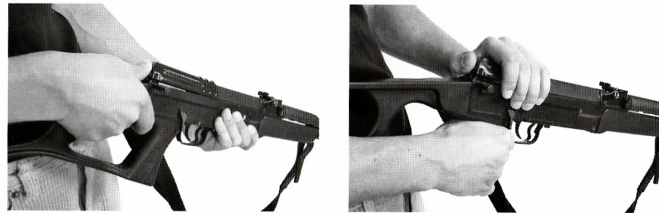

Fig. 28 Removing the return mechanism
b) **Removing the return mechanism** (Fig. 28): With the left hand grasp the rifle from below by the receiver and by the thumb of the right hand, the palm of which leans against the top of the buttstock, depress the protruding end of pin 27. Then grasp the knurled head of the pin by the right-hand thumb and index finger and pull the pin out to the right until an audible click is heard.